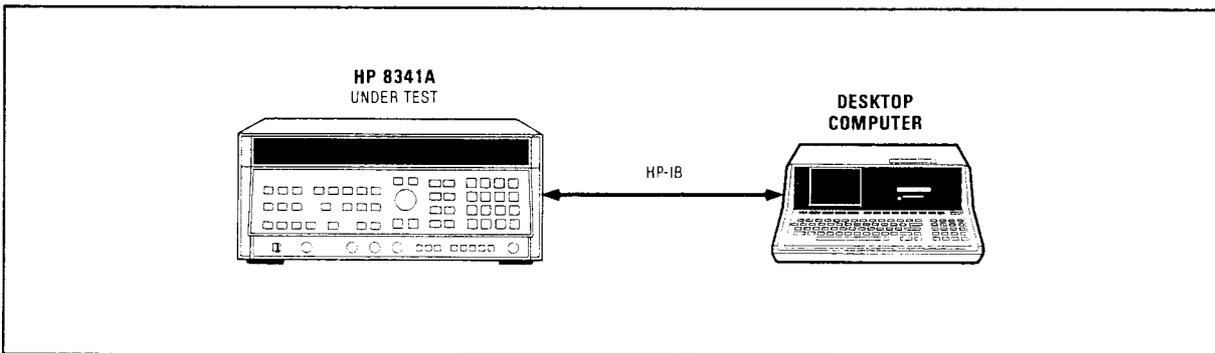

Figure 4-20. HP 8341A HP-IB Operation and Verification Test Setup
1. Connect the equipment as shown in Figure 4-20. Enter the program shown in Table 4-30 if the HP 85F is used, or the program in Table 4-31 if the HP 9826A or 9836A is used. Press the RUN key. The program will display the HP 8341A status bytes similar to Table 4-29. After the program goes through the output loop routine about two times, all status bits should be "0" and the HP 8341A should be in LOCAL mode (front panel REMOTE indicator not ON).